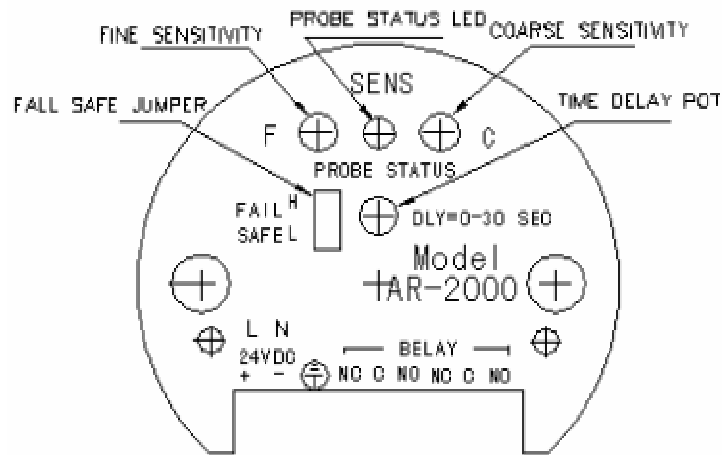
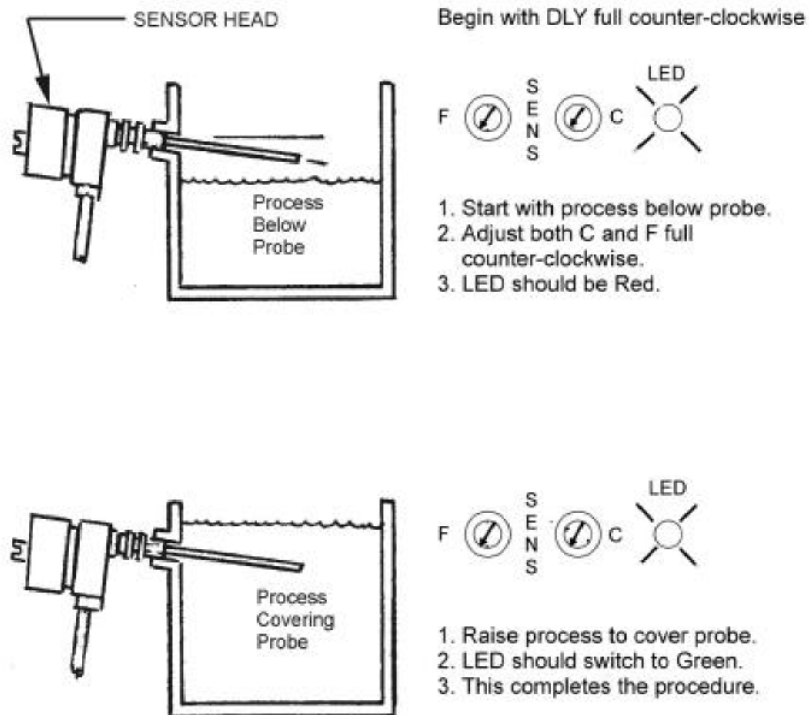
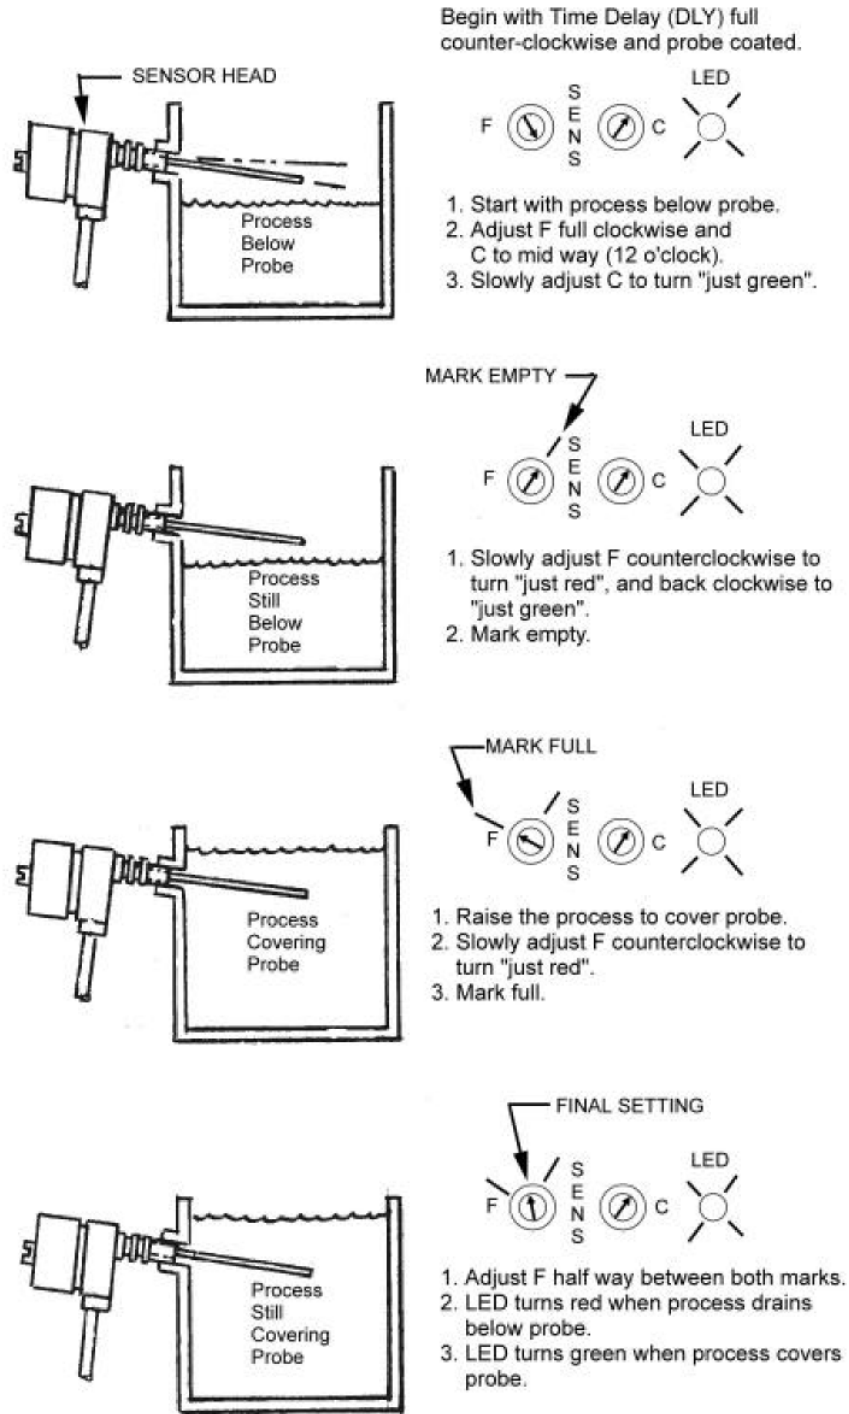

Figure 4-1
Figure 4-2
Figure 4-3
1. Refer to Figure 4-1 for AR-200 adjustment and indicator locations.
- a) Refer to Figure 4-1 for adjustment and indicator locations. Refer to Figure 4-2 for a pictorial outline of this procedure.
- e) With process material NOT contacting the probe, adjust both the Coarse (C) and Fine (F) Sensitivity (SENS) pots fully counter-clockwise. The Probe Status LED should be Red.
- a) Refer to Figure 4-1 for adjustment and indicator locations. Refer to Figure 4-3 for a pictorial outline of this procedure.
- d) Preset the Fine (F) Sensitivity (SENS) pot full clockwise and the Coarse (C) pot to its midpoint position (12 o'clock).
- g) With process material NOT contacting the probe, adjust the Coarse (C) sensitivity such that the Probe Status LED "just turns" Green and stays. Don't touch the Coarse (C) sensitivity pot again.
This action is controlled by a small plastic jumper selector switch (FAIL SAFE) located on the top of the unit (see Figure 4-1). The L circuit pad designates Low Acting Alarm. The H circuit pad designates High Acting Alarm. The center pad is the common, and always connects to one position of the jumper selector.
A single turn Time Delay (DLY) pot is provided on the AR-200 (see Figure 4-1). Most applications require no time delay. Therefore, adjust the Time Delay pot to the maximum counterclockwise direction (zero time delay).